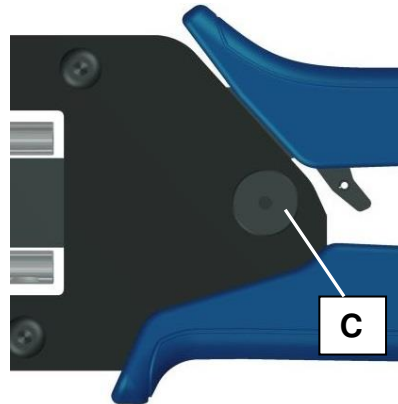

Fig.8.
1. Loosen knurled nut (C) by turning it counter clockwise (Fig.8.)
2. Press the nut until toothed adjustment wheel (B) is lifted so it can be rotated freely